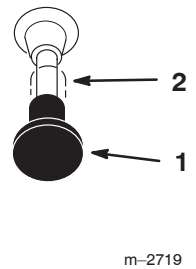

Figure 12
4. Move the choke control to On before starting a cold engine (Fig. 12).
7. After the engine starts, move the choke to Off (Fig. 12). If the engine stalls or hesitates, move the choke back to On for a few seconds. Then move the throttle lever to the desired setting. Repeat this step as necessary.